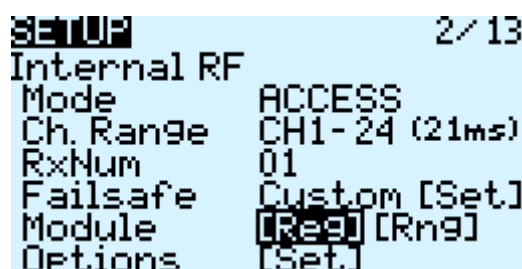

Figure 65: RCU Internal RF
5. Using the ENT knob, scroll down to INTERNAL RF. See figure 65.